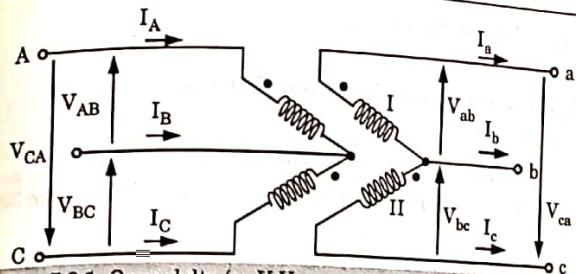

Fig. 5.8.1. Open-delta (or V-V connection) Schematic diagram.
2. The open-delta connection is given in Fig. 5.8.1.